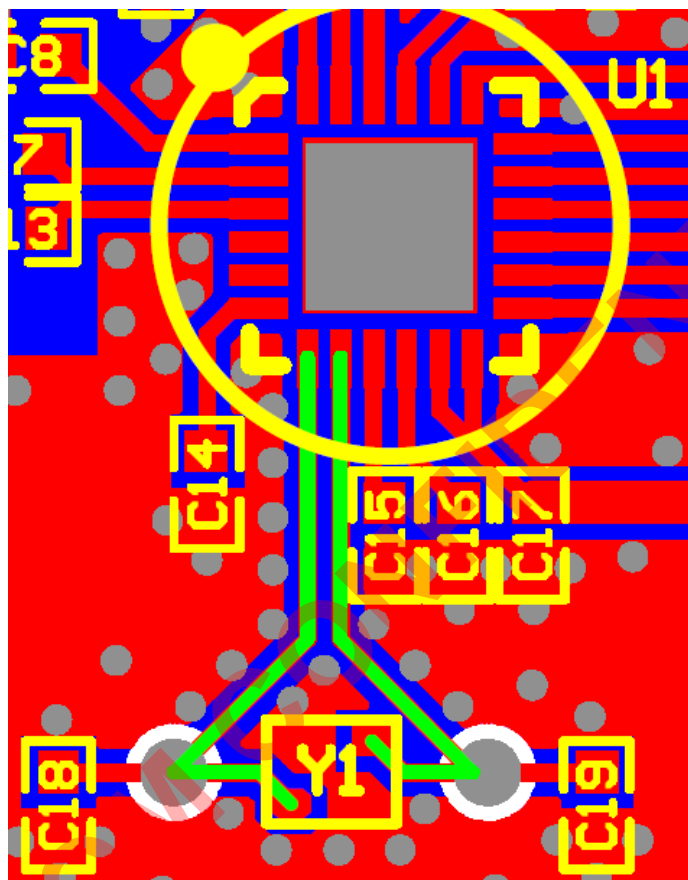

Fig. 2.2b X'tal trace (green)
4. The X'tal traces should be as short as possible and are better to be isolated by ground via. In addition, to minimize cross talk issue, components placement shall be as far away to X'tal trace as possible. Please refer to the green traces in Fig. 2.2b.